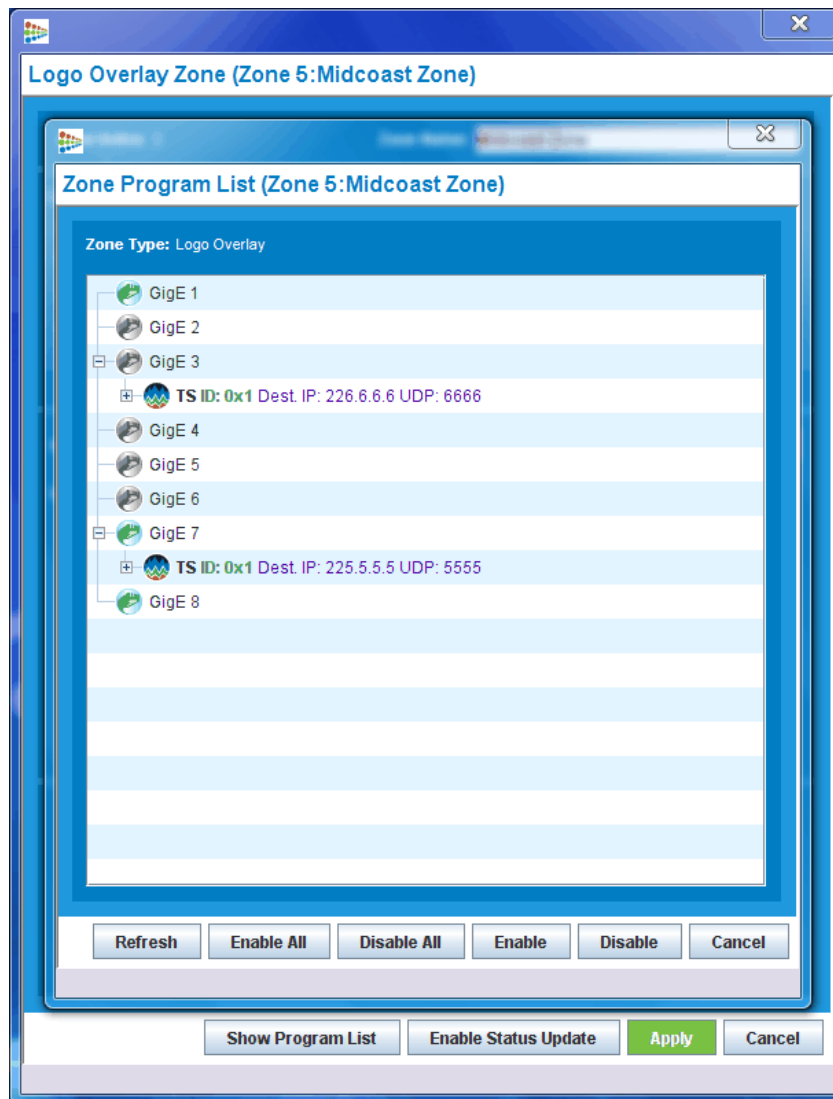

Figure 77. Show Program List window
- **Refresh Program list:** Click the **Refresh** button at the bottom of the **Show Program List** window (Figure 77 on page 101).